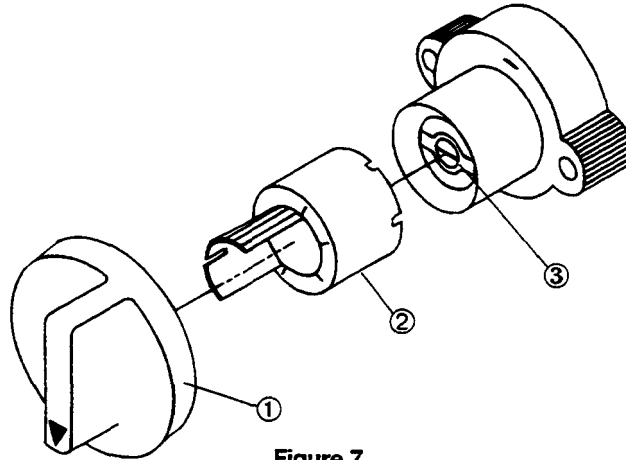

Figure 7
3. Remove indicator knob from dial stem and insert dial stem back on thermostat. Refer to Figure 7.